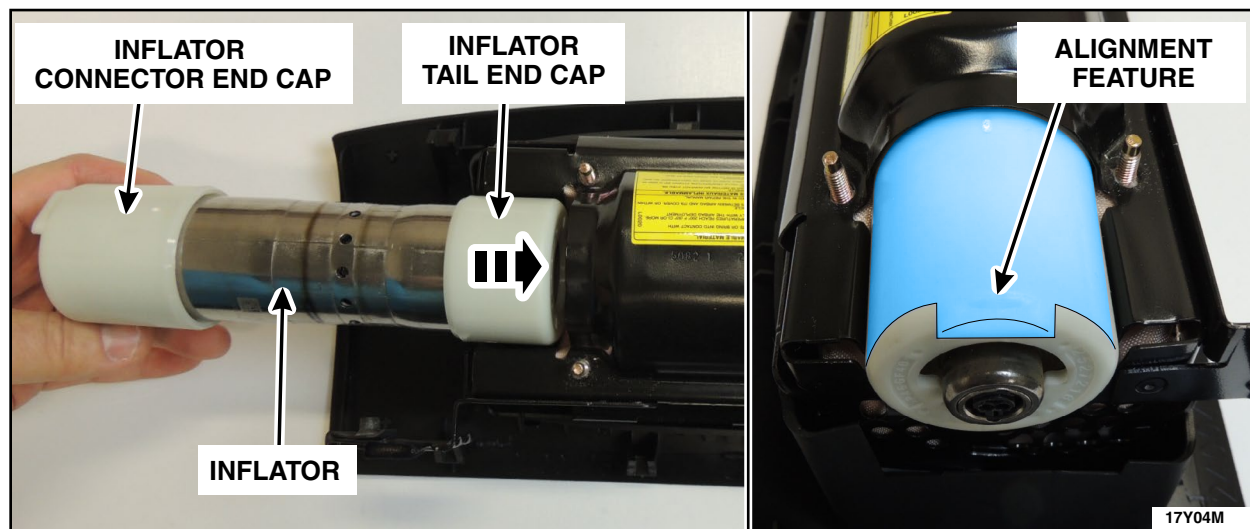

FIGURE 13
11. Install inflator into air bag assembly with connector end facing out, so that the alignment feature is aligned directly facing up. See Figure 13.